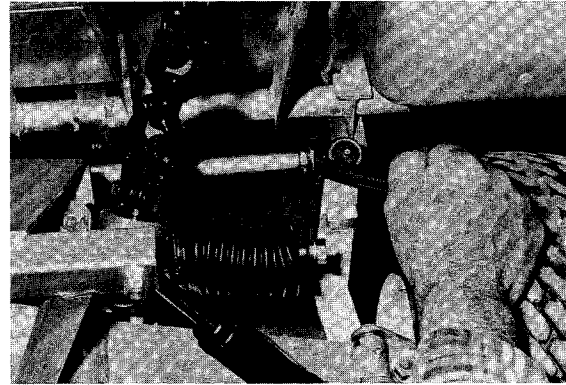

Figure 12-19
4. If adjustment is necessary, loosen the locknuts on each tie rod end and rotate tie rod to increase or decrease toe-in (Figure 12-19).